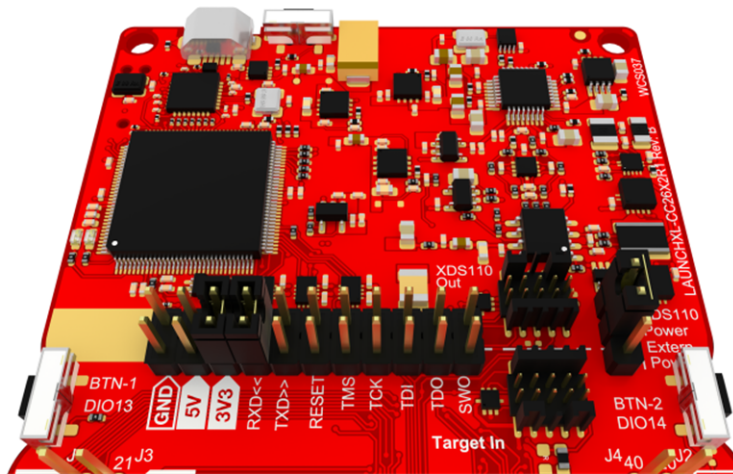

Figure 34. Jumper Settings
1. Remove all jumpers on the LaunchPad between the XDS debugger and the device, except for the XDS110 Power, the 3V3 and RXD jumpers (see Figure 34). It is important that the XDS110 jumper is mounted in the "XDS110 Power" position when the LaunchPad is powered up, otherwise the calibration of EnergyTrace will fail. The UART driver in the SDK configures the UART RX pin without internal pull-up. To avoid current leakage in the input buffer, the pin must always be firmly pulled to a logic level. This can be achieved by keeping the RXD jumper on (connecting the debugger output to the UART RXD input).